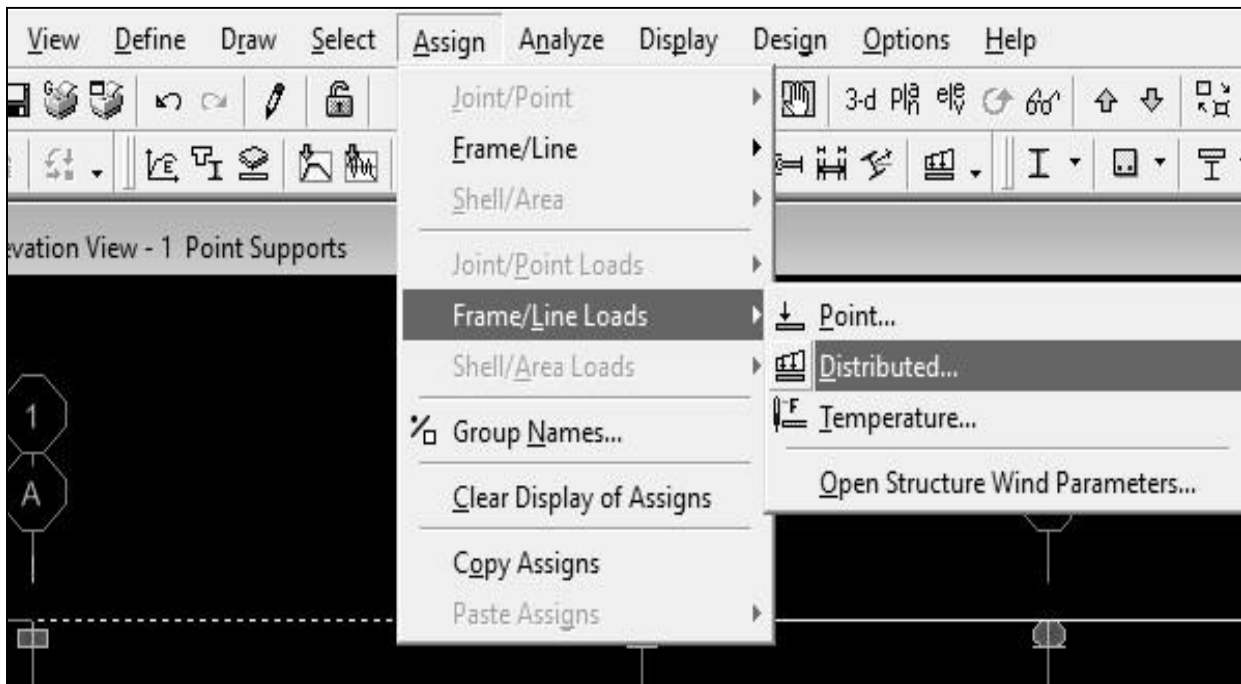

Fig : 2.7
4.2. **Load Assign:** Select the Beam → Assign → Frame/Line Loads → Distributed /Point → Load Case Name = Live → Units=Kip-ft → Direction = Gravity → Click on Absolute distance from End-I → Then write the values Distance=0, Load =6 and Distance=15, Load =2 → OK. (Fig: 2.7 to 2.8)